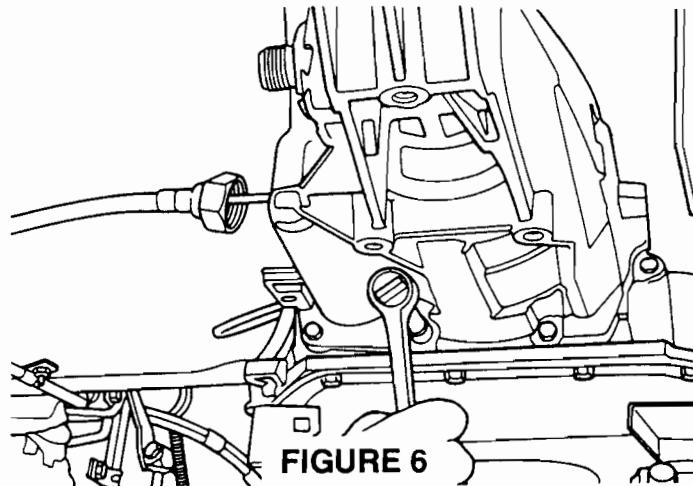

FIGURE 6
5. Remove the seven bolts securing the overdrive to the transmission (Figure 6).